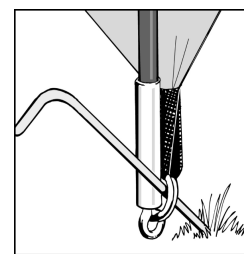

Figure 2.
- Peg the corners of the tent through the metal rings using pin-pegs. It is important to drive the peg into the ground at a 45 degree angle to obtain the best grip. **(See Figure 2)**.